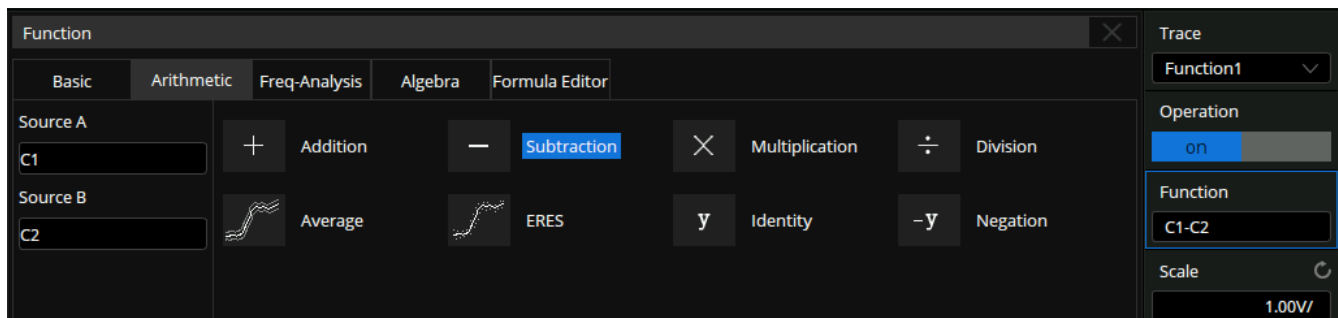

Figure 13.2 Function Window
- The **Function** window shown in figure 13.2 will be displayed.